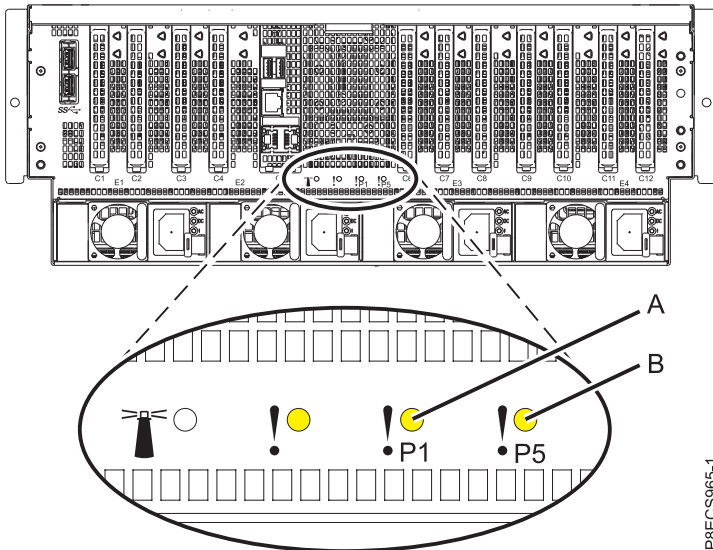

Figure 2. Service indicator LEDs
6. Look for the amber LED (**A**) of the I/O module on the rear of the system. See Figure 2.